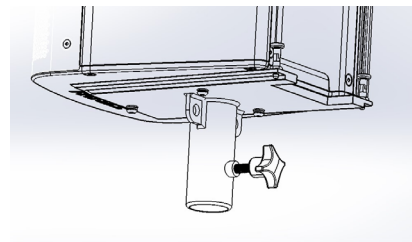

Figure 6 - Pole Mount, No slide plate
- Secure plate into place using M5X2 screws (D), lock washer (E), and flat washer (F) (Figure 6)